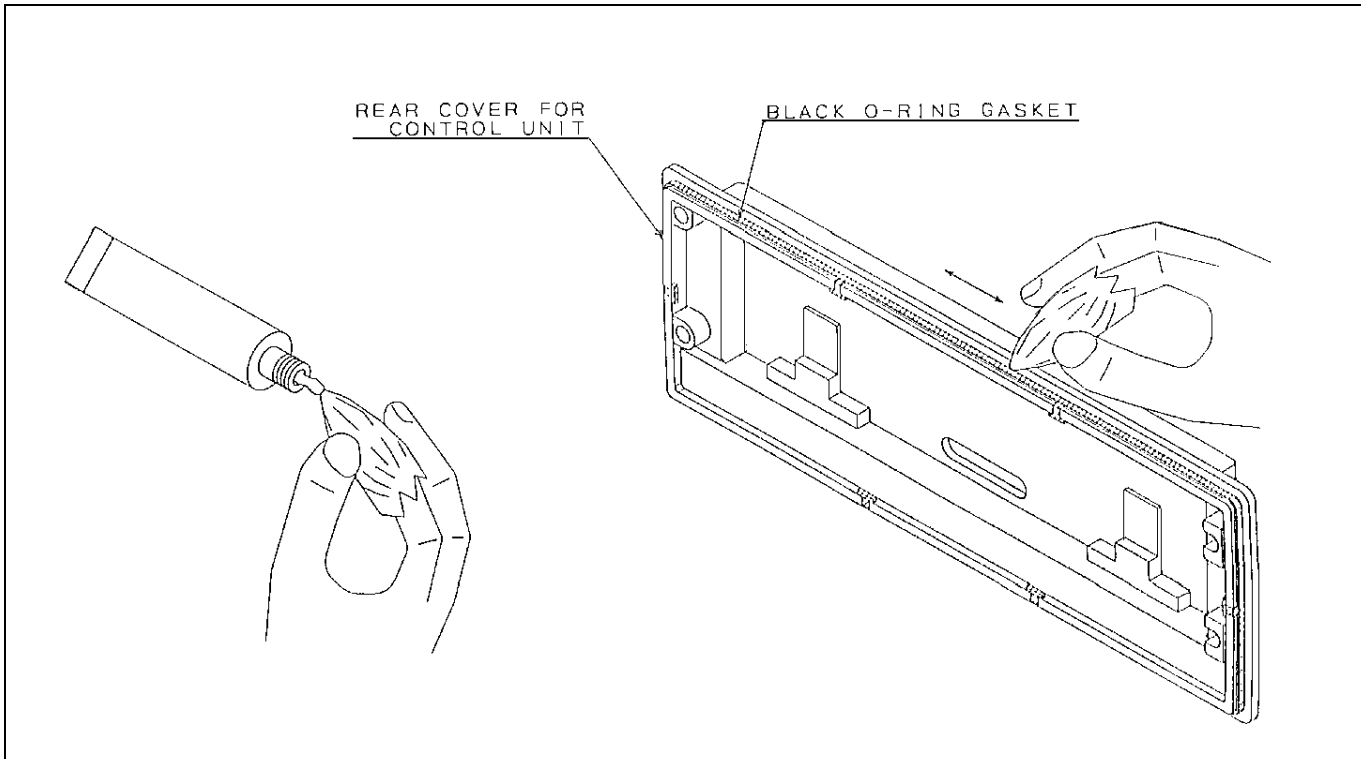

Figure 1A - Front Mount Control Unit "O-Ring" Lubrication
For re-assembly of the Control Units (Front and Remote Mounting) Revision "A" or later, be sure the black "**O-Ring**" is lubricated properly with "HIVAC-G" silicone grease (See Figures 1A and 1B for instructions).
2. Apply proper amount of the silicone grease to a cloth as shown in Figures 1A and 1B.
3. Put the silicon grease on the black O-Ring gasket, covering the surface of the gasket evenly (see Figure 1A and 1 B).